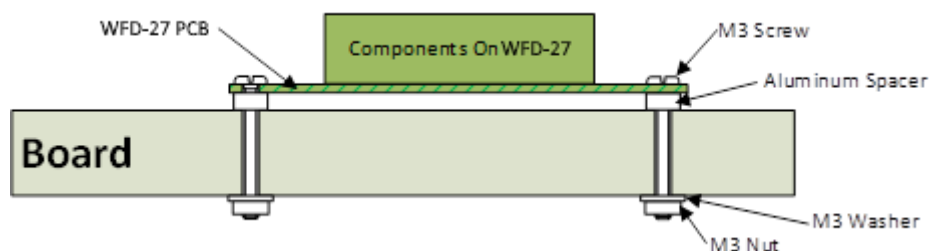

Figure 38 Mounting the WFD-27 on a board
- (1) Use the mounting kit to attach the module to your baseboard or fascia, as in Figure 38, either on top or underneath in such a way as to avoid anything being placed on it or against it.
- (2) Mount the module inside a suitable plastic box with holes cut to accommodate the wires to track. **Do not use a metal box** as this will cause degradation of the Wi-Fi performance.